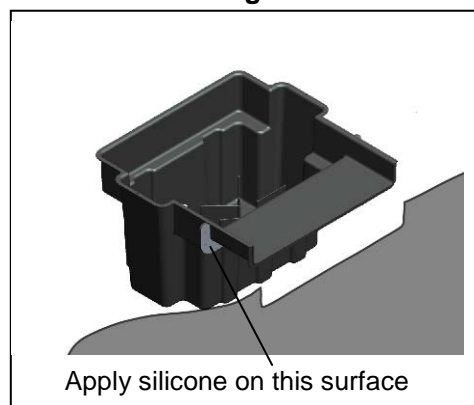

Fig. 5
- Apply a continuous 1/4" bead of sealer around the flange of tank. Make sure there are no spaces or voids in the bead between the holes and the edge of the cut-out on the flange of the tank. Fig. 5